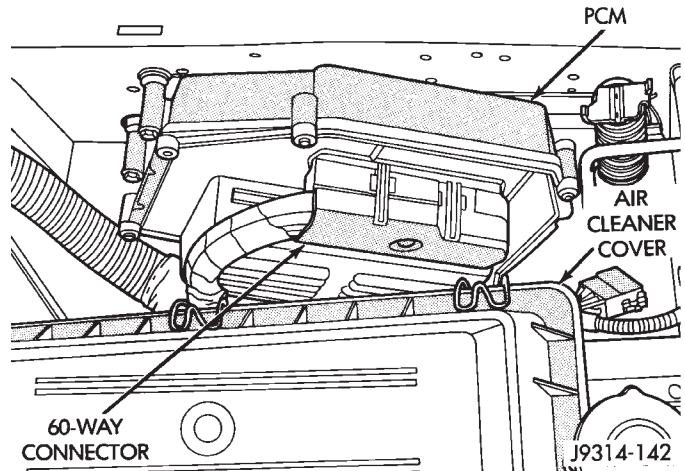
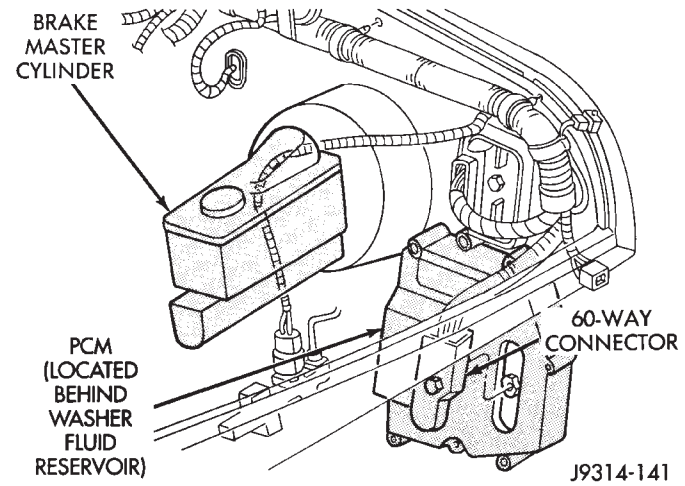

Fig. 13 PCM Location—XJ Models
Fig. 14 PCM Location—YJ Models
On XJ models, the PCM is located in the engine compartment next to the air cleaner (Fig. 13). On YJ models, the PCM is located in the engine compartment behind the windshield washer fluid reservoir (Fig. 14).
- (1) Disconnect the negative battery cable at the battery.
- (2) YJ Models Only: Remove the windshield washer fluid tank.
- (3) Loosen the 60-Way connector mounting bolt (Figs. 13 or 14).
- (4) Remove the electrical connector by pulling straight back.
- (5) Remove the three PCM mounting bolts.
- (6) Remove PCM.